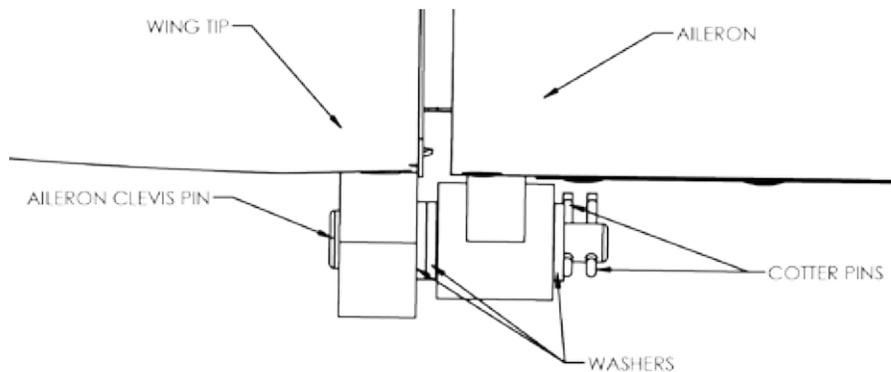

Figure 20 – Aileron Hinge
(1) REMOVAL
(2) INSTALLATION
- (a) Refer to Figure 20. Position the ailerons on the wing panels and secure with the bolts (1), washers (2 and 3), nuts (4) and cotter pins (5) (Figure 21). The ailerons are not interchangeable left/right; each can be identified by the weight being on the outboard end.